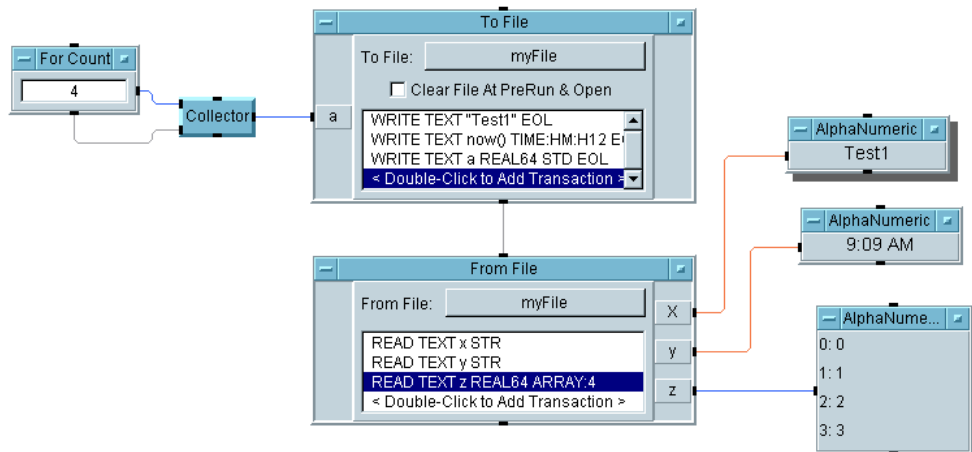

Figure 137 Retrieving Data Using the From File Object
- 8 Run the program. It should look like Figure 137.